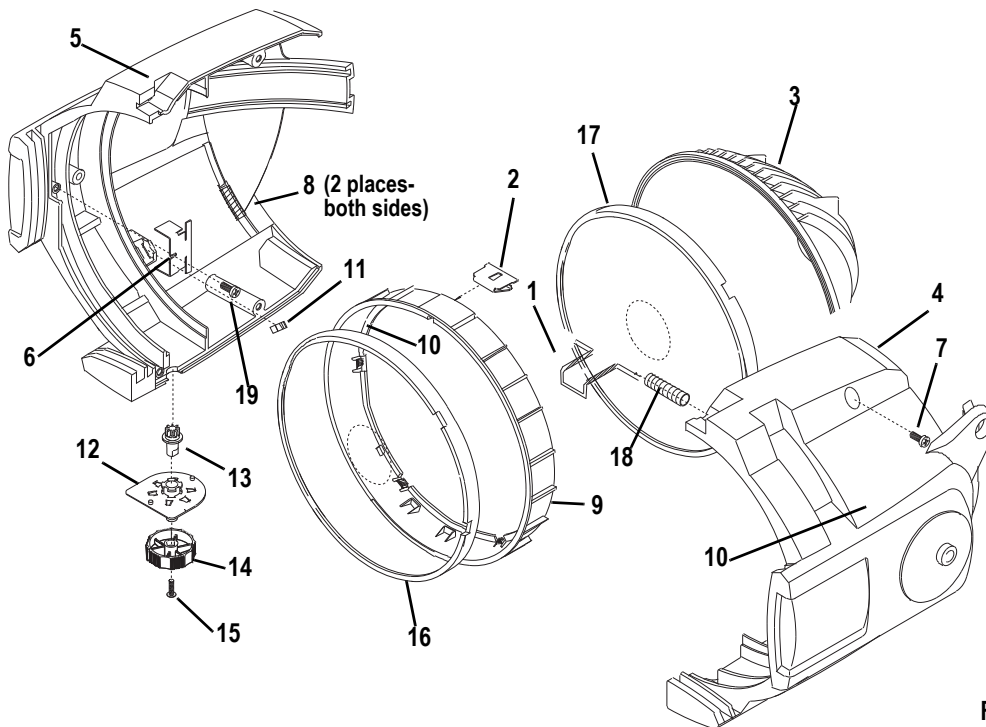

Figure 4
- Step 1: Install the reflector mount silicon pads (8) in the left barrel assembly (5). Install the pads in two places on both sides. See Figure 4.
- Step 2: With the wave side of the lens facing toward the front of the fixture, install the clear/wave lens (17) into the rear lens track.
- Step 4: Place the focus knob assembly into the left barrel (5).
- Step 5: Install the lens stop (10) and the rotator spring clip (6) into the lens rotator (9).
- Step 6: Install the lens rotator (9) into the left barrel (5).
- Step 7: Install the rotator pressure clip (6) into the left barrel with screw (19).
- Step 8: Install the gel retainer clip (1) and the spring retainer (18) into the right barrel (4).
- Step 9: Attach the right barrel to the left barrel using screws (7) in three places. Hand tighten only (25 inch pounds).
- Step 10: Check that the gel clip retainer (1) moves easily into position.
- Step 11: Check for smooth rotation of the lens rotator (9).